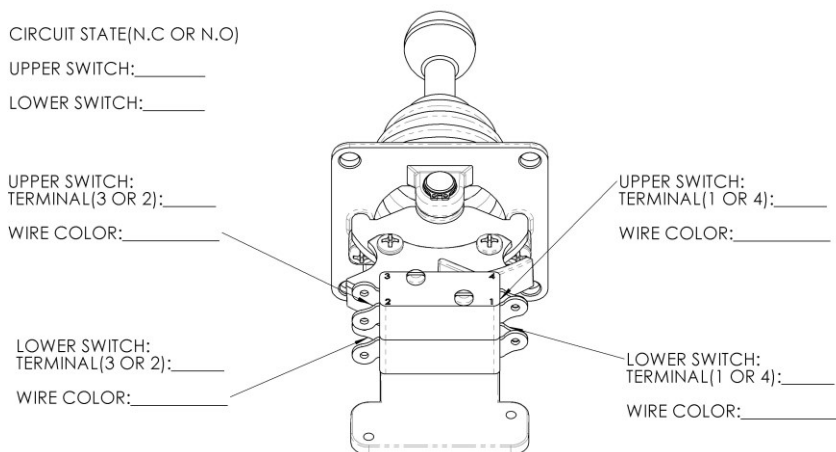
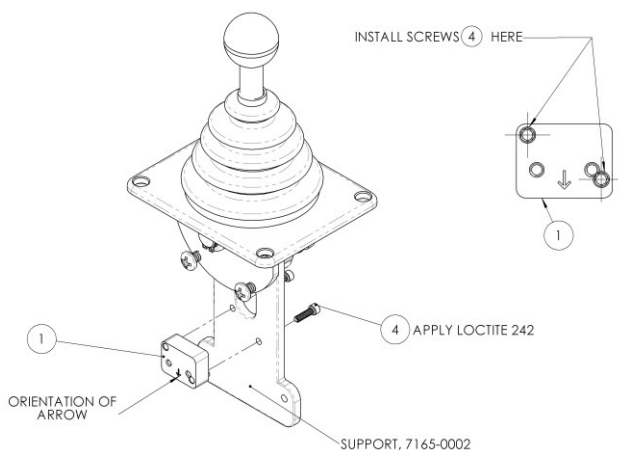
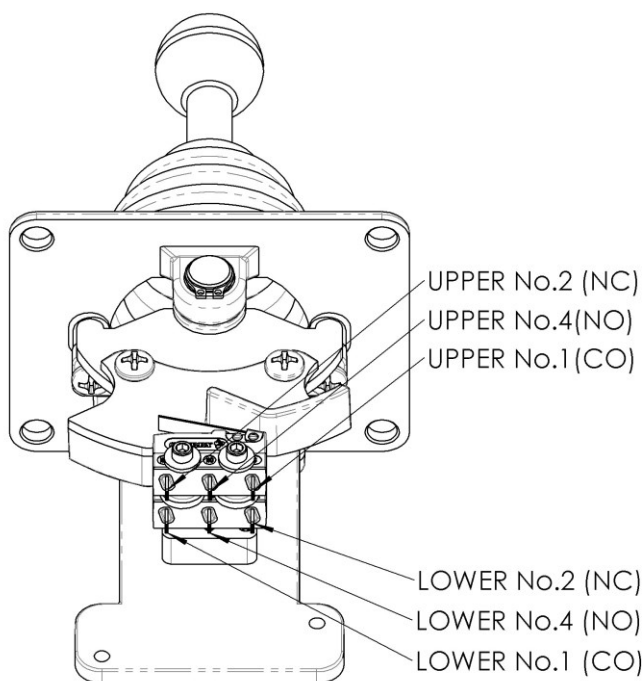

Figure 15: Wire terminal colour fill out diagram, old microswitch.
Figure 17: Installation of microswitch bracket, 7165-0011
Figure 19: New microswitch terminal diagram
For convenience a diagram is provided in Figure 15, fill it out with the color of wire that is routed to which terminal. Additionally, it will be required to identify if the wired circuit is normally open, or normally closed.
6. Figure 17 for the next three steps. Note the engraved arrow on the microswitch bracket ① is pointed downwards on the joystick support.
terminal 1. See Figure 19 for clarity on terminals being checked. When the switch is depressed, terminal 1 and 4 should have continuity.
- 16. Refer to the filled out Figure 15 to ensure the correct wiring of the new switches. The new microswitch terminals are shown in Figure 19. Solder the power supply (most likely green) leads to the Common (CO) on the upper and lower switches.
- 17. The signal return wires must be wired to the correct N.C or N.O terminals on each of the microswitches. Ensure the same signal wires go to the upper and lower switches respectively as was written down in Figure 17.
Refer to Figure 17 to check what circuit state was wired in the old microswitches. Connect the signal wires to the correct terminal given in Figure 19. If the circuit had a N.O state before the retrofit, then the signal wires must be soldered to the N.O terminals(No.4). NC circuits must have the signal lead soldered to the N.C terminals(No.2).
19. Check the continuity on the wired terminals when the joystick is in the neutral and extended position, checking both directions. Compare the circuit state to what was written down in Figure 15 and ensure the same circuit functionality as before the retrofit. If it is not correct, the wire soldered to the NC or NO terminal must be moved to the other terminal.